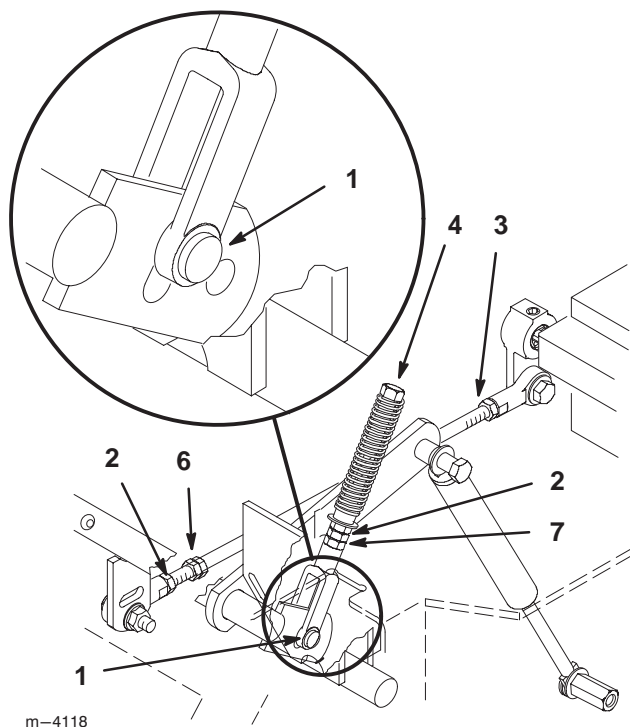

Figure 62
2. Begin with either the left or right motion control lever. Move lever to the neutral (but not locked) position and pull lever back until the clevis pin (on arm below pivot shaft) contacts the end of the slot (just beginning to put pressure on spring) (Fig. 62).
4. If adjustment is needed, loosen the nut against the yoke (Fig. 62).
5. Apply slight rearward pressure on the motion control lever, turn the head of the adjustment bolt in the appropriate direction until lever is centered in neutral lock position (keeping rearward pressure on the lever will keep the pin at the end of the slot and allow the adjustment bolt to move the lever to the appropriate position (Fig. 62).
4. Loosen locknut at ball joint on pump control rod (Fig. 62).
6. Adjust pump rod length by rotating double nuts on rod, in the appropriate direction, until wheel is still or slightly creeps in reverse (Fig. 62).